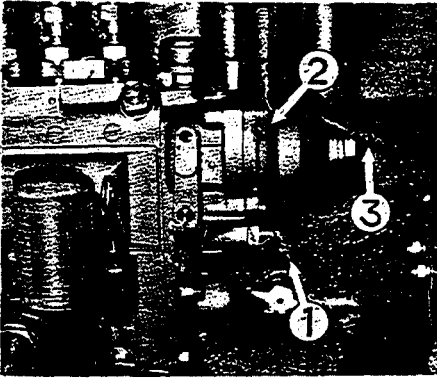

Fig. 3-26 Diaphragm block of governor
- 5) In any case whatever, don't tamper with the seals on (Fig. 3-26, 3-27)